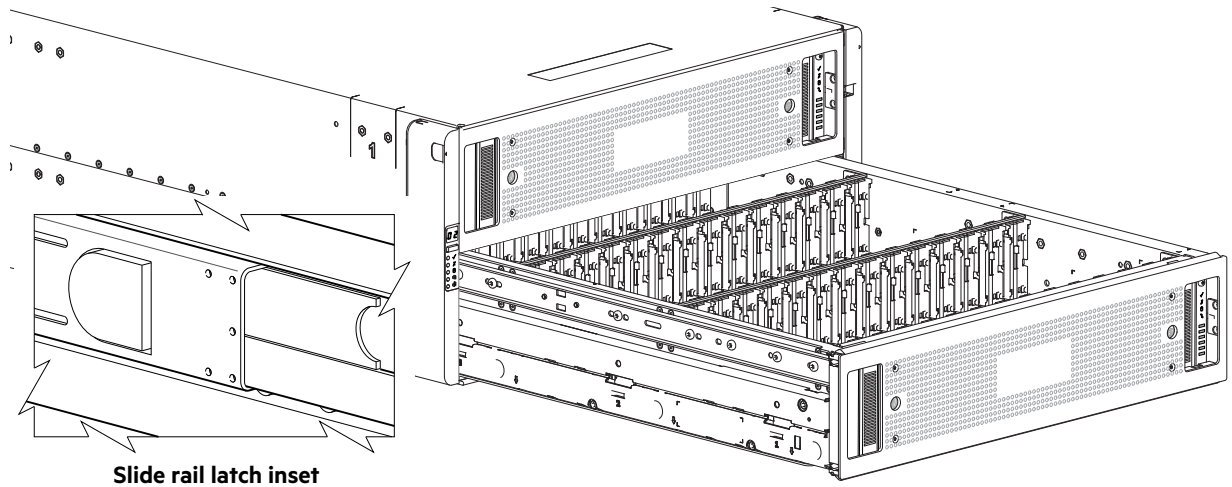

Figure 103 Opening a drawer (2 of 2)
3. Pull the drawer outward until it locks at the drawer stops as shown in Figure 103.
Figure 103 shows a magnified detail of a slide latch, which resides on the left and right drawer rails.